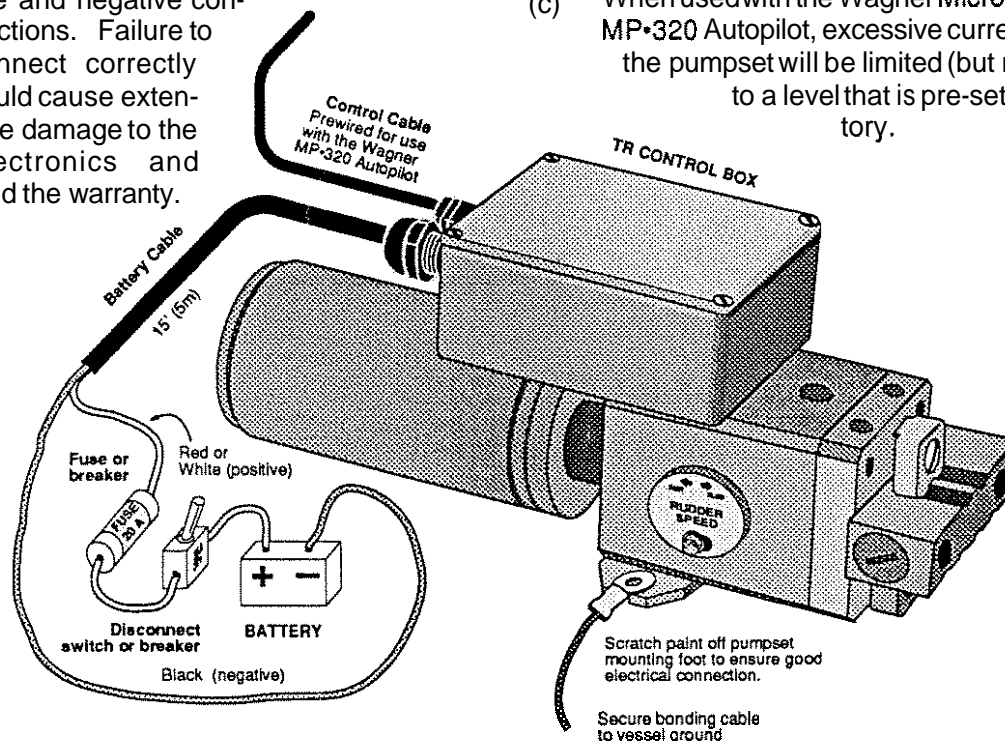
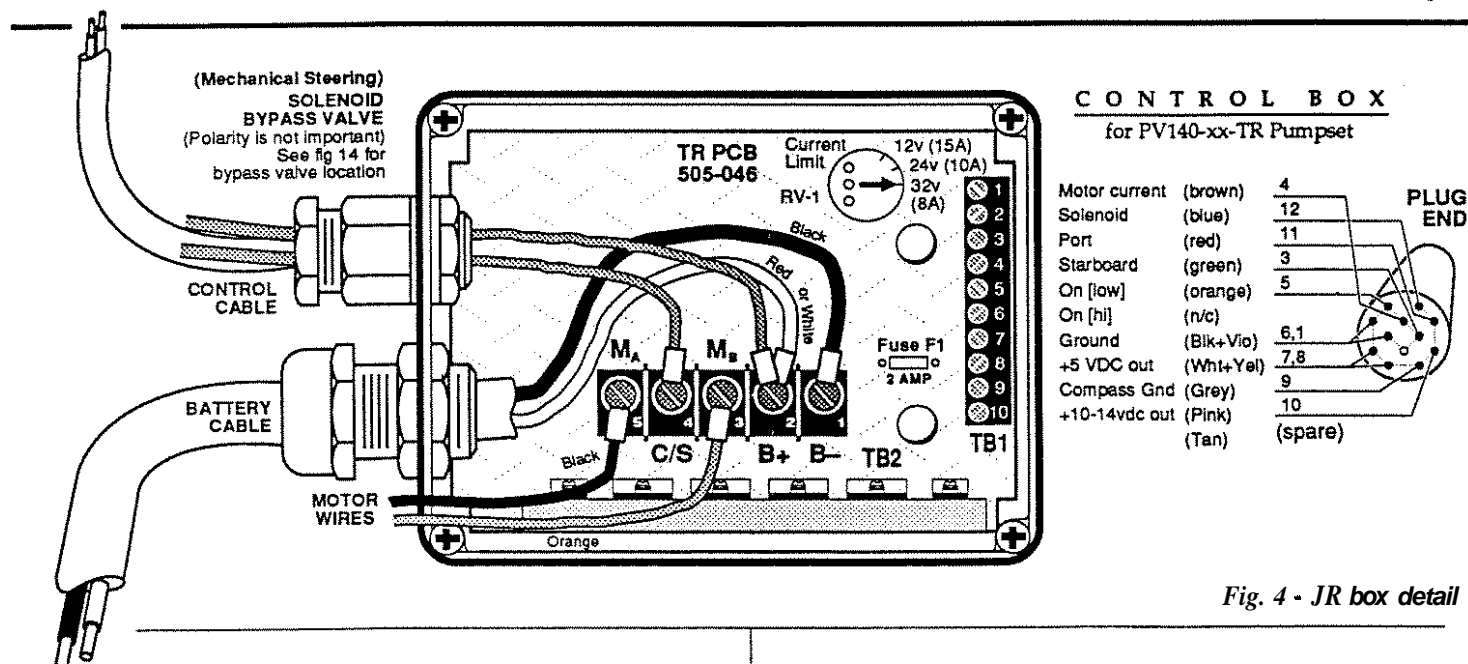
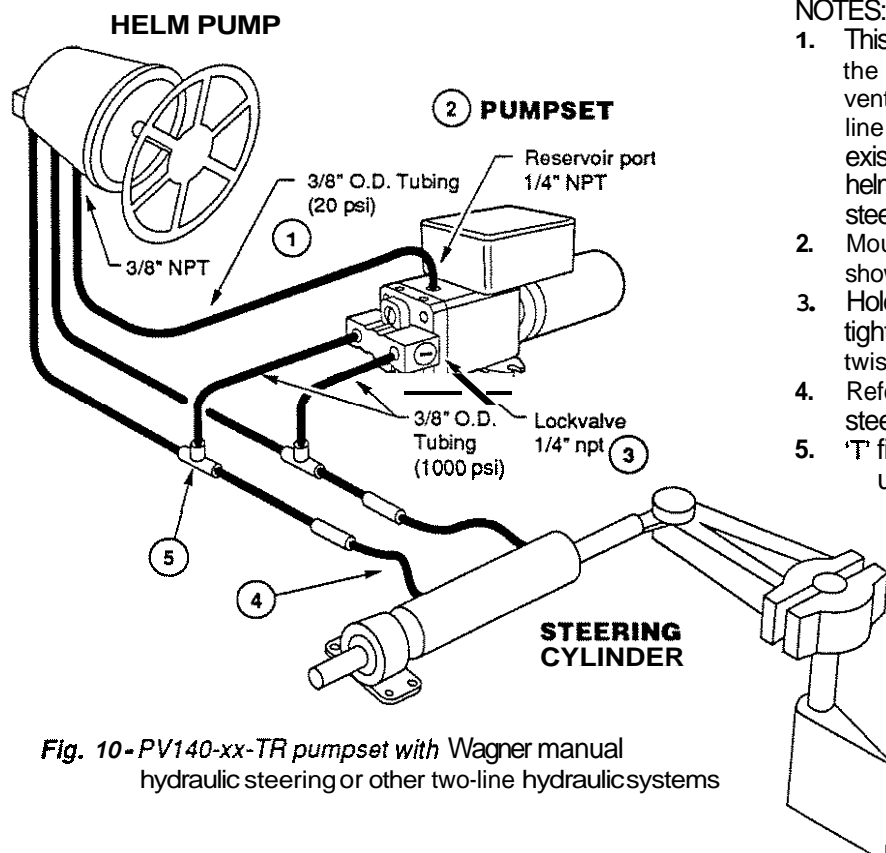
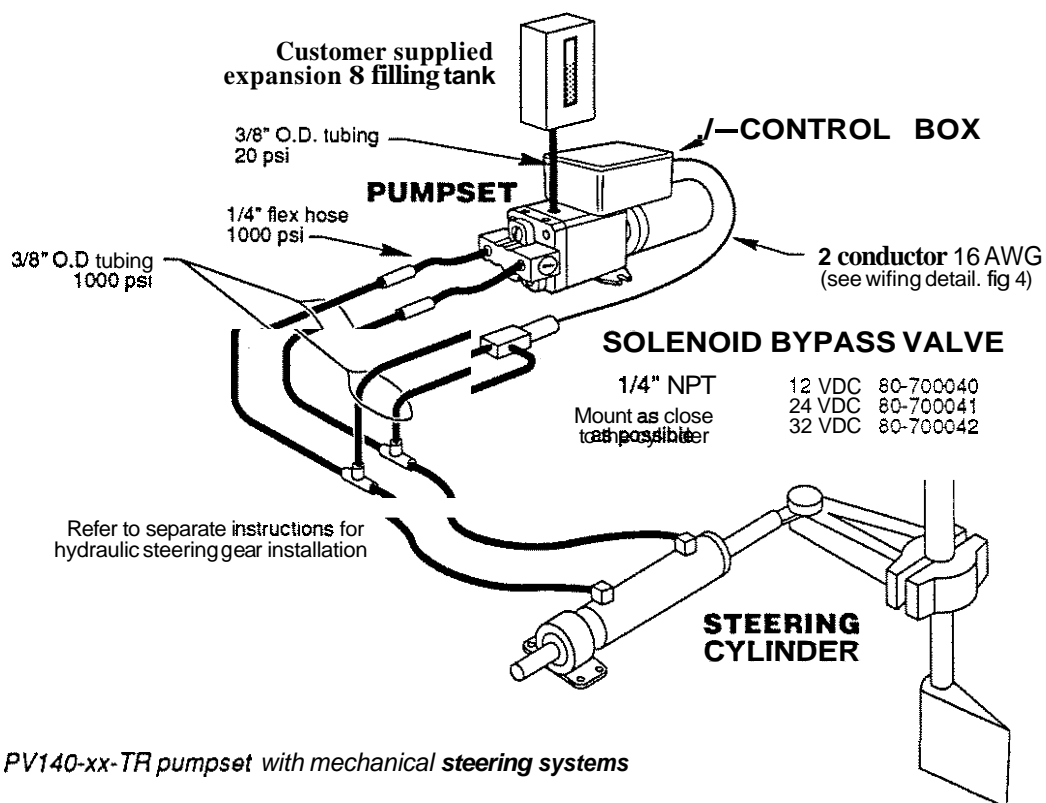

Fig. 2 - Pumpset power supply hookup
Fig. 4 - JR box detail
Fig. 10- PV140-xx-TR pumpset with Wagner manual hydraulic steering or other two-line hydraulic systems
Fig. 14 - PV140-xx-TR pumpset with mechanical steering systems
5. Wagner Type PV140-xx-TR pumpsets can be deactivated by disconnecting the power going to terminals 1 and 2 (on terminal block TB2) in the pumpset electrical connection boxes. Install a separate switch in a readily accessible location, if necessary. (See fig. 2 & fig. 4).
4. Mount the pumpset horizontally, with the reservoir port facing up (see fig. 10 note 2).
Pumpset Power Supply (See fig. 2)
(b) A thermal circuit breaker is preferred because it will tolerate a moderate overload before tripping, and also serves as a disconnect switch. Refer to Fig. 2 for wiring details. Select the correct size breaker or fuse according to the system voltage that is being used:
5. Fig. 10 illustrates the Wagner PV-140-xx-TR pumpset connected to a two-line hydraulic system. When connecting the TR pumpset to Teleflex or Hynautic three-line steering systems, refer to Figs. 11-13. Fig. 14 illustrates the Wagner PV-140-xx-TR pumpset connected to a mechanical steering system. Fig. 4 shows terminal and fuse location.
2. The main steering lines between the helm pump(s) and cylinder must be filled first. A Wagner system is filled through the highest (or only) helm pump in the system. The filler hole on all other helm pumps must be closed with a pipe plug. (Refer to the piping diagram, fig. 10.) When connecting to a mechanical steering system (see fig. 14), oil is filled through the expansion tank (customer supplied). Instructions 3 to 5 following are to be ignored. If a non-Wagner system is being installed, refer to the owner's manual for filling instructions.